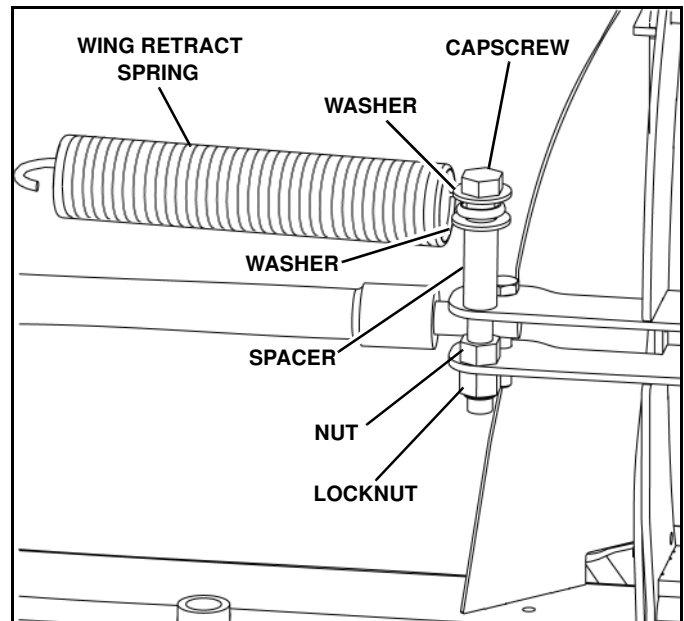

Figure 1-16
5. Install a 3/4" x 6-1/2" capscrew and 3/4" flat washer through the closed loop of the retract spring. Install a second 3/4" washer and spacer on the bolt. Insert the bolt/spring assembly through the top wing pivot bracket and begin to thread a 3/4" nut onto the bolt. Continue threading the nut on the bolt until it bottoms on the bolt threads. Install a 3/4" locknut on the bolt below the lower wing pivot bracket and tighten securely (See Figure 1-16)